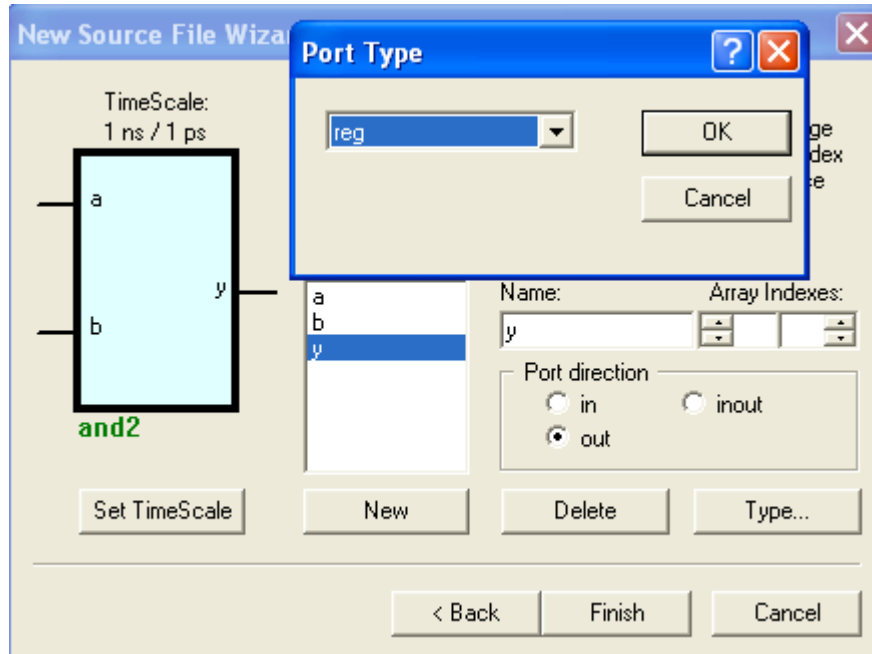

Figure 9: Ports and Port Type
3. In the next window, you will add ports to your source file just like before. Have two input ports by name “a” and “b”. Add an output port by name “y”. For output “y” click on “Type” tab and select the Port Type as “reg” as shown in Figure 9. Click OK and Click Finish.